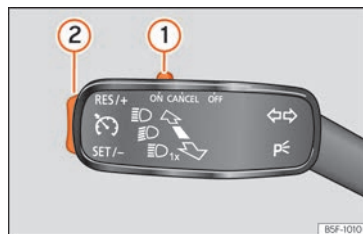

Fig. 42 Left of the steering column: CCS switch and controls.
- Switching on the CCS: Move switch » » Fig. 42 ① to **ON**. The system is on. If no speed has been programmed, the system will not control it.
- Activate the CCS: Press button » » Fig. 42 ② in the **SET/-** area. The current speed is memorised and controlled.
- Temporarily switching off the CCS: Move switch » » Fig. 42 ① to **CANCEL** or push the brake. The cruise control system is switched off temporarily.
- Reactivating the CCS: Press button » » Fig. 42 ② in **RES/+**. The memorised speed is saved and controlled again.
- Increasing stored speed during CCS regulation: press button ② in **RES/+**. The vehicle accelerates until the new stored speed.
- Reducing stored speed during CCS regulation: press button ② in **SET/-** to lower the speed by 1 km/h (1 mph). Speed is reduced until reaching the new stored speed.
- Switching off the CCS: Move switch » » Fig. 42 ① to **OFF**. The system is disconnected and the memorised speed is deleted.